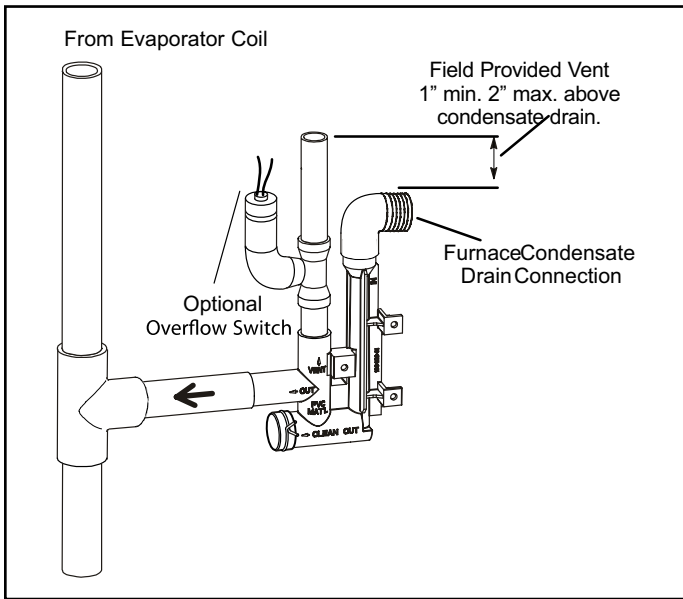
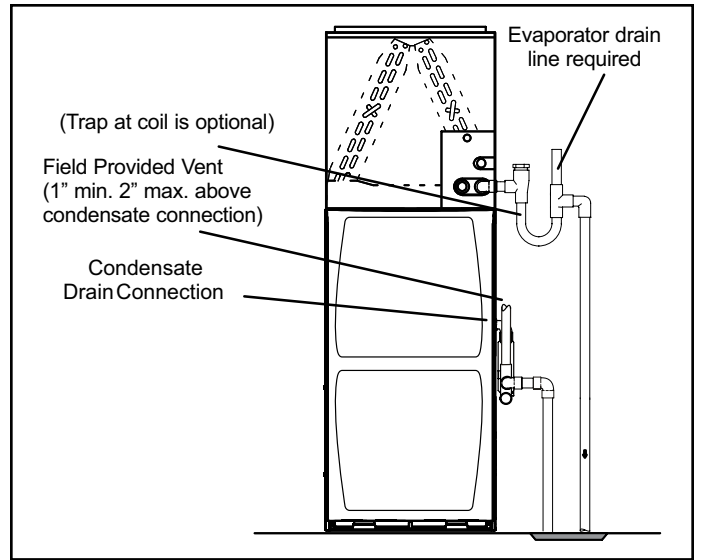
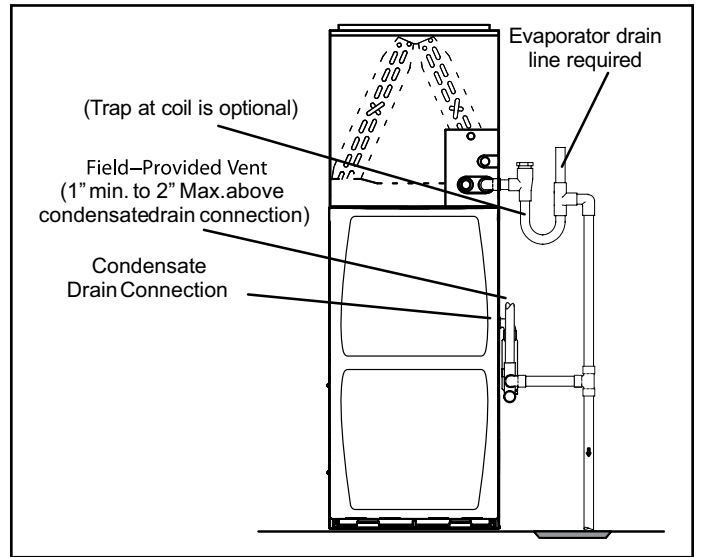
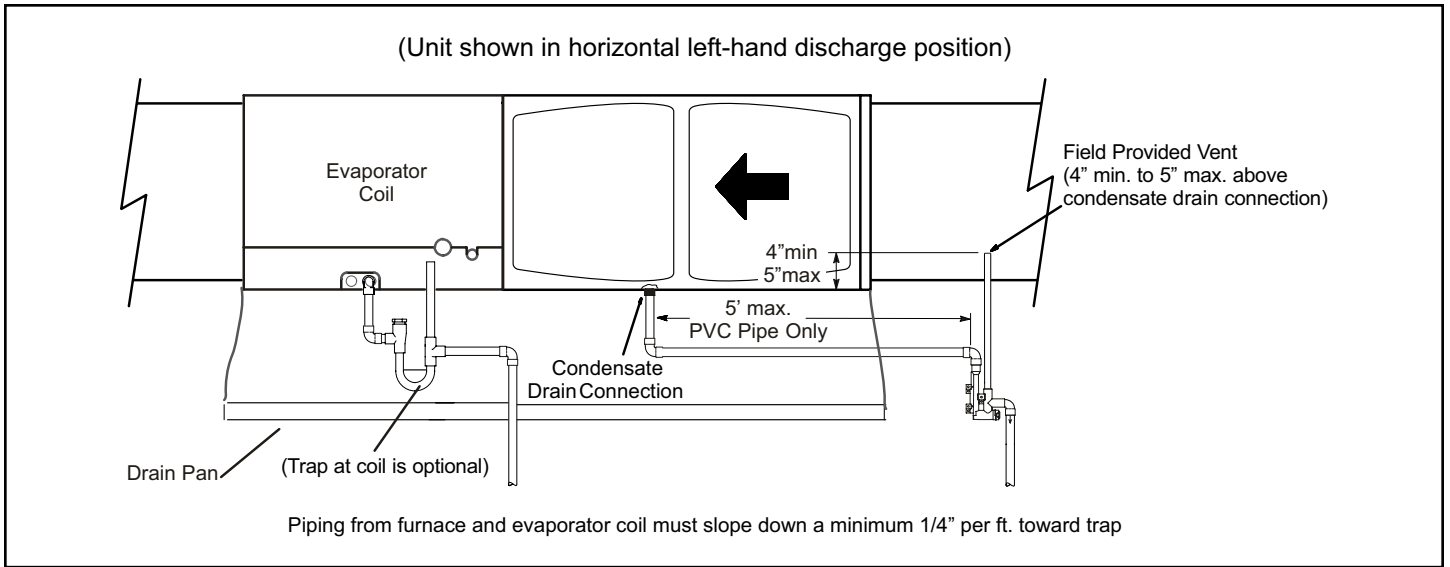

Figure 50. Condensate Trap With Optional Overflow Switch
Figure 51. Furnace with Evaporator Coil Using a Separate Drain
Figure 52. Furnace with Evaporator Coil Using a Common Drain
Figure 53. Furnace with Evaporator Coil Using a Separate Drain
5. Figure 51 and Figure 53 show the furnace and evaporator coil using a separate drain. If necessary the condensate line from the furnace and evaporator coil can drain together. See Figure 50, Figure 52 and Figure 54.
Upflow furnace (Figure 52) - In upflow furnace applications the field provided vent must be a minimum 1" to a maximum 2" length above the condensate drain outlet connection. Any length above 2" may result in a flooded heat exchanger if the combined primary drain line were to become restricted.